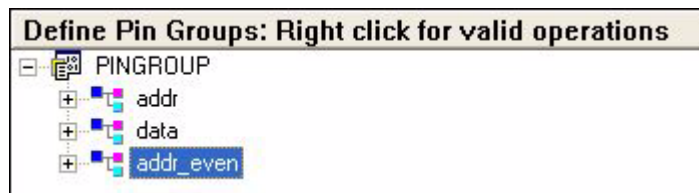

Figure 3-44. Changing Cloned Pin Group Name
- 9 Selecting the `addr_0` pin group and typing `addr_even` changes the cloned pin group name (Figure 3-44).